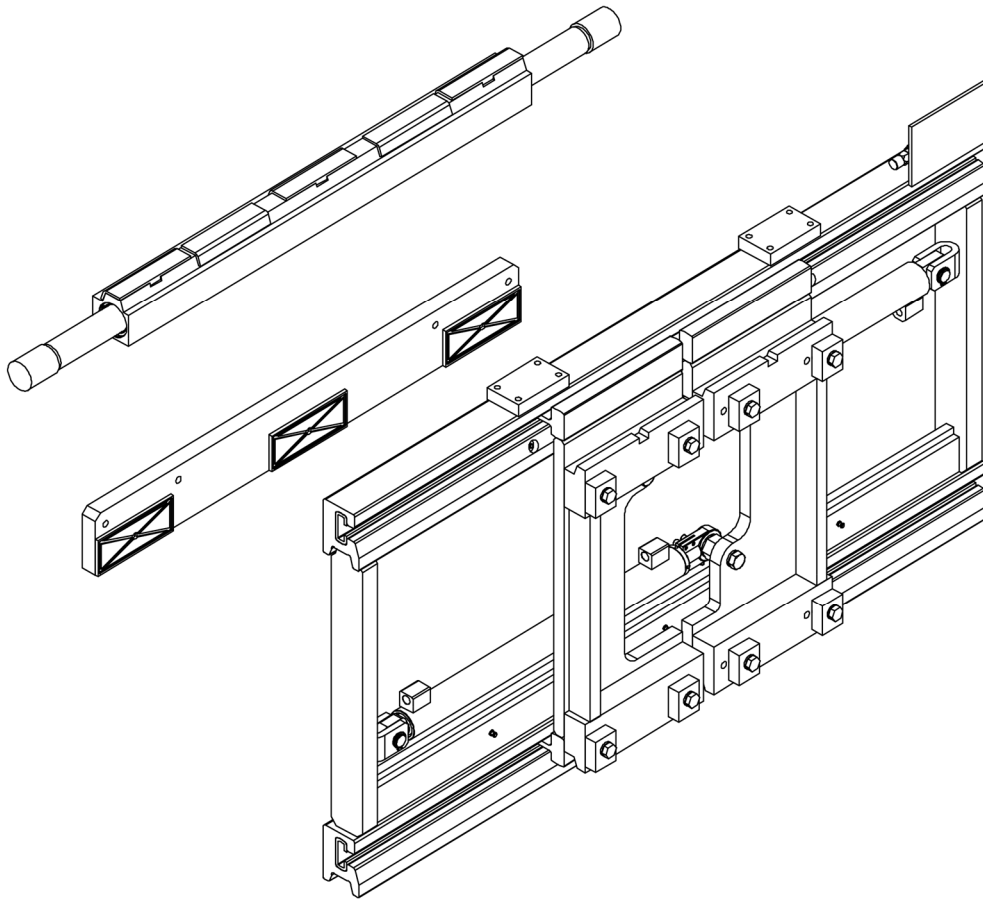

Figure 5
5. Remove the front structure profiles (see *Figure 5*).